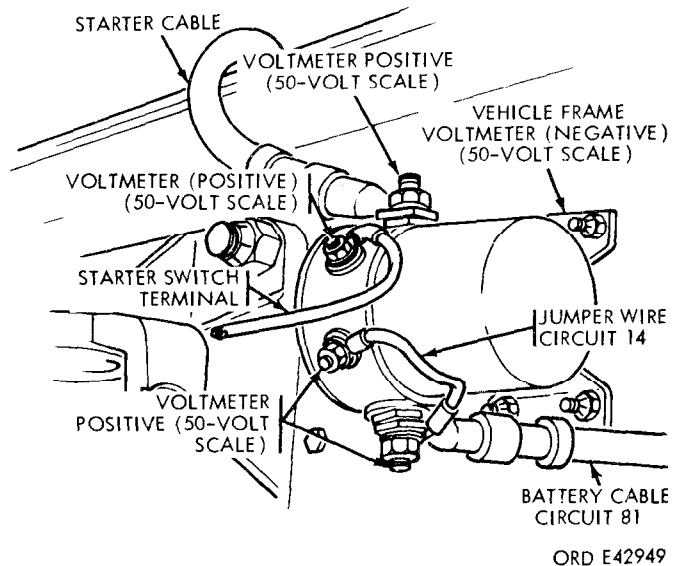

Figure 2-25. Solenoid test hookup.
(1) Set the voltmeter on the 50-amp scale. Connect the negative (black) lead (fig. 2-25) to the vehicle battery ground or frame. Connect the positive (red) lead to the battery side of the solenoid. The meter should read a battery voltage of 23 to 26 volts.
(2) Move the voltmeter positive (+) red lead to the small contact connected by circuit jumper wire number 14. The meter should read battery voltage.
(3) Move the positive (+) red lead of the voltmeter to the small terminal on the starter side of the solenoid (fig. 2-25). The meter should read battery voltage.
(4) If battery voltage is not obtained at this point, disconnect the wire, running to the starter switch, from the solenoid; the meter should read battery voltage. If no voltage is obtained, replace the starter solenoid (para 2-126). This test indicates that the coil is defective.
(5) If the battery voltage reading is present move the red positive (+) lead to the large terminal of the solenoid on the starter side (fig. 2-25). Depress the starter switch lever. The starter solenoid should close and the meter should read battery voltage.
(6) If solenoid does not close, use a jumper wire and ground the small starter switch terminal to the frame. The switch should close and the meter should indicate battery voltage. If the solenoid closes with this check, the starter switch circuit is defective.
(7) If the solenoid relay will not close during this check, replace the solenoid (para 2-126).